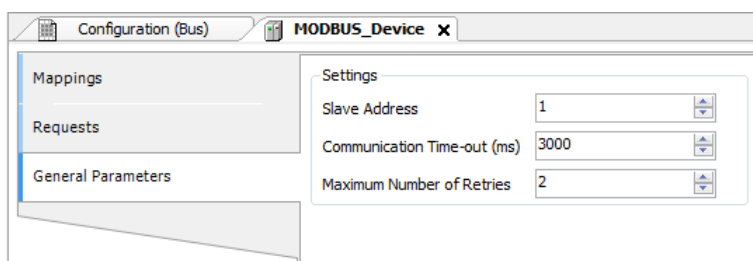

Figure 82: Device General Parameters Settings
- Add and configure devices via the General Parameters tab, defining the slave address, communication time-out and number of communication retries as can be seen in Figure 82.